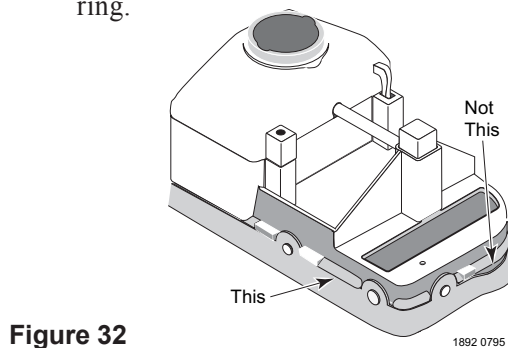

Figure 32
6. Install the rubber vacuum skirt on the cleaner with the word 'OUTSIDE' showing. Start at the large pin on the back of the cleaner head (see Figure 31) and work around the cleaner. Make sure the skirt is flush against the stop strips on the cleaner head (see Figure 32).